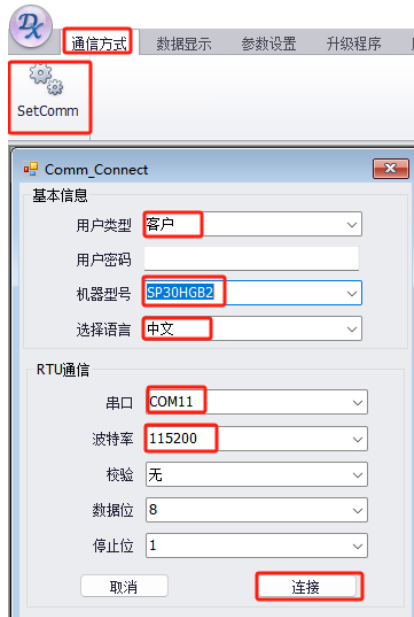

Figure 33
(2) debugging function of host computer software
Step 2: As shown in Figure 33, for RTU communication, the user must select the appropriate serial port and baud rate (default: 115200). After completing the parameter selection, click Connect.